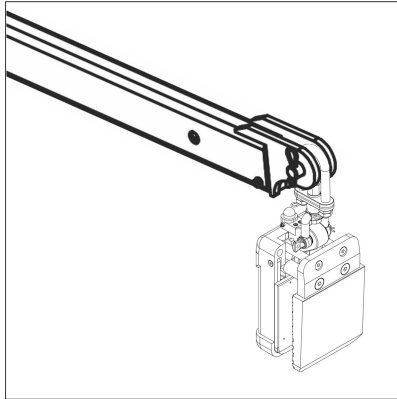

Figure 1.1
Step 1: Hook the Little Giant Lifter Automatic to a forklift boom or to a crane hook (figure 1.1).